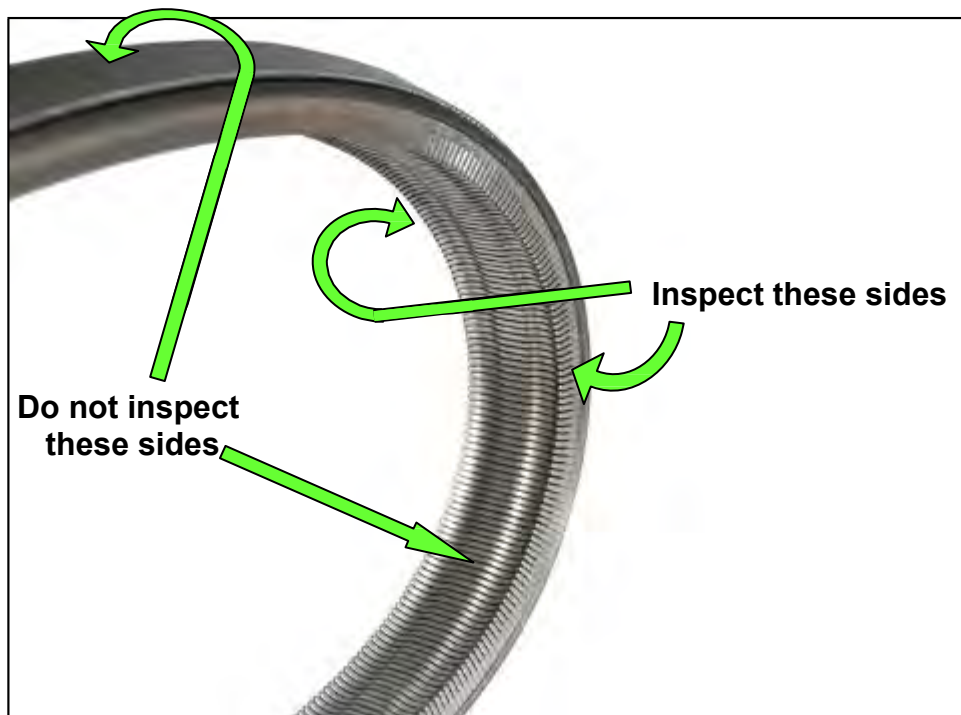

Figure 2C: New belt
2. Mark the driver's side (LH) front wheel with a suitable marking.
- Using the steps on pages 15-21 inspect the entirety of the two sides of the belt that come in contact with the pulleys (see Figure 2C).